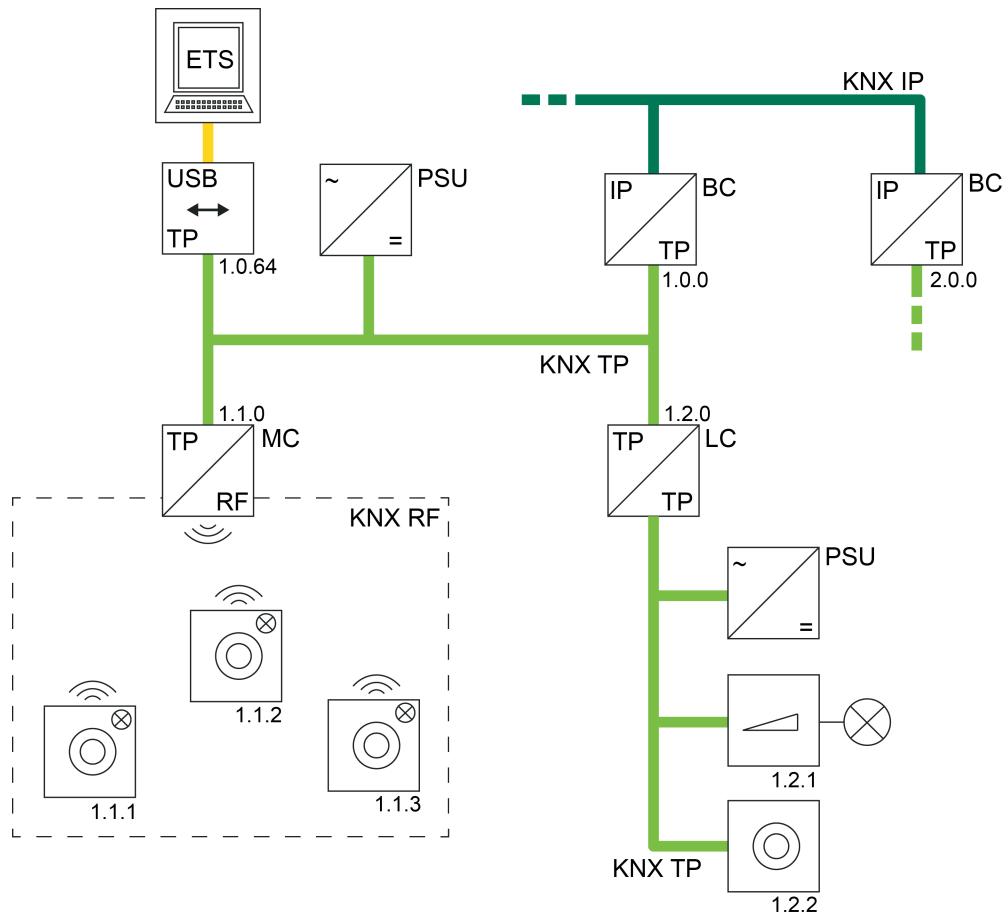

Figure 32: Example of a possible KNX topology with a KNX TP USB data interface
- Use of a KNX TP USB data interface (figure 32):